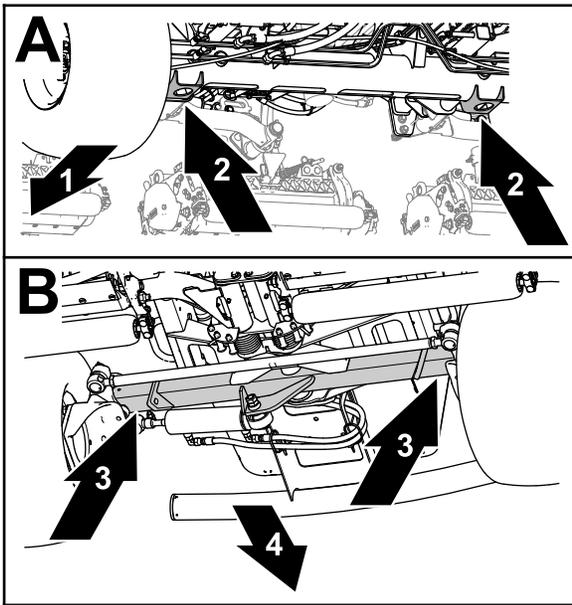

Figure 65
- Front—the jack brackets of the front-axle tube (Figure 65).